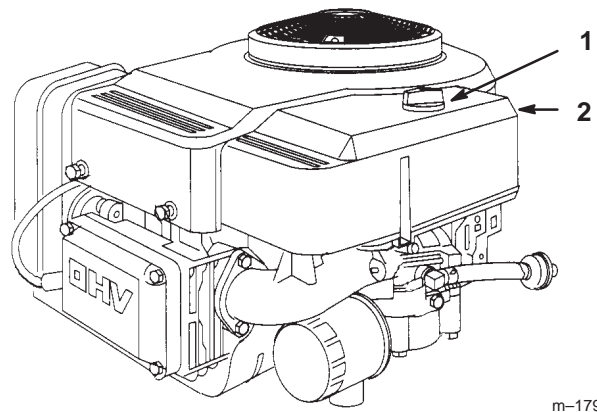

Figure 26
2. Clean around the air cleaner to prevent dirt from getting into the engine and causing damage. Unscrew the knob and remove the air cleaner cover (Fig. 26).
- Install the air cleaner cover and knob (Fig. 26). Tighten the knob securely.